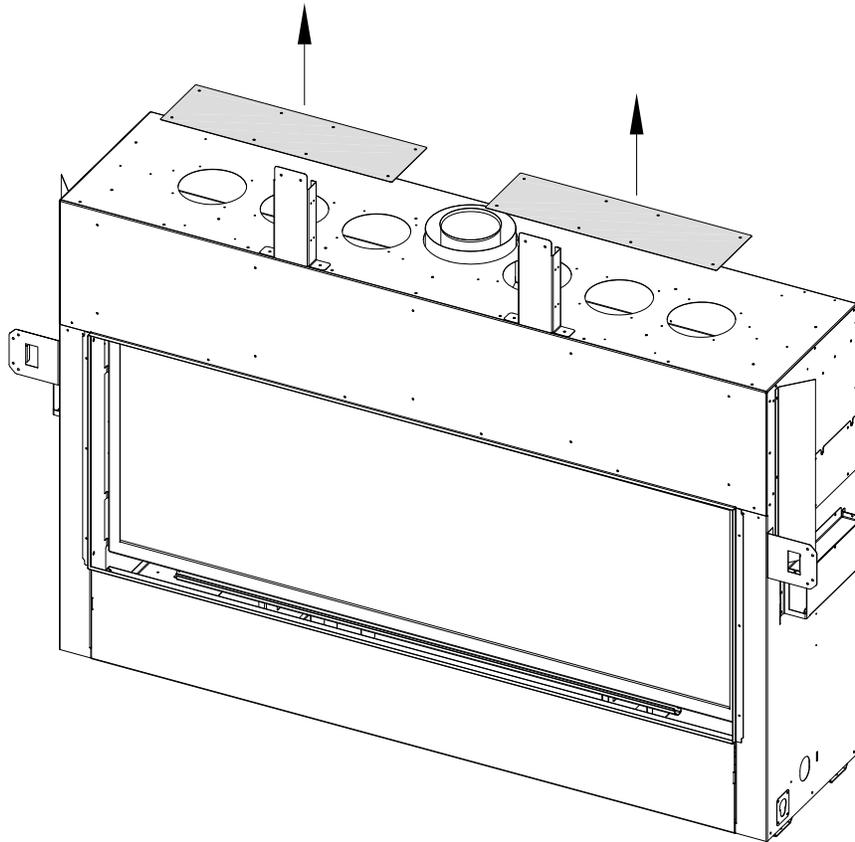
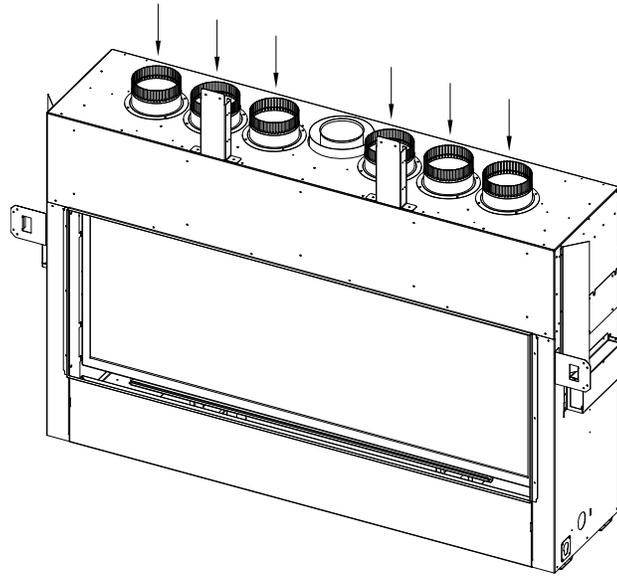
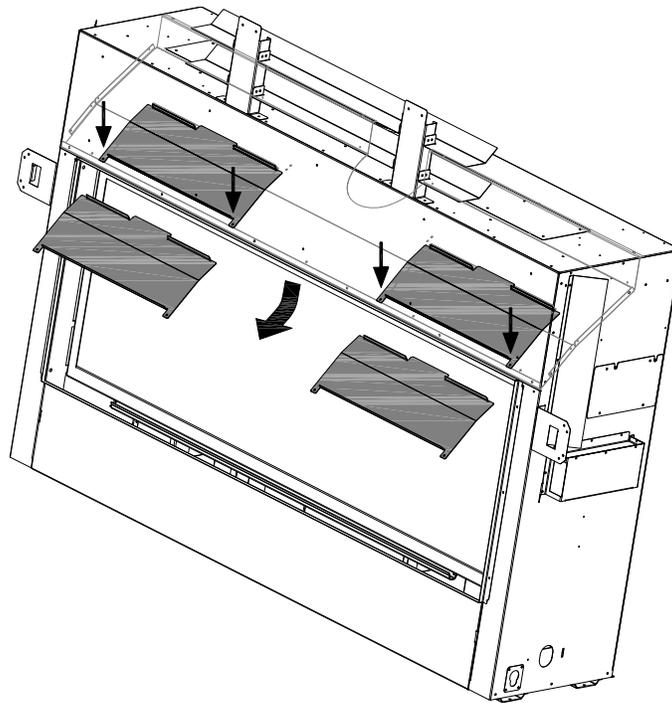

Figure 4.1 - Cover Plate Removal
Figure 4.2 - KZK Collar Installation
Figure 4.3 - Convection Baffle Removal
- The appliance cover plates and convection baffles must be removed for Komfort Zone Kit installations, as shown in Figure 4.1 & Figure 4.3. KZK collars must be installed—See Figure 4.2.
1. Remove the (16) sheet metal screws that secure the (2) cover plates at the top of the fireplace shown in Figure 4.1. Discard these two cover plates. Save the sheet metal screws for the next step.
2. Install the KZK collars that were provided with KZK-062 as shown in Figure 4.2. Reuse the sheet metal screws from the previous step.
3. Locate the (2) convection baffles as shown in Figure 4.3. There are (2) screws that secure each convection baffle. Remove the screws and convection baffles from the fireplace. Discard the screws and convection baffles.